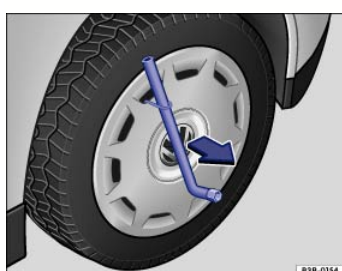

Fig. 230 Pulling the wheel cover off.
- Slide the lug wrench through the clip ⇒ Fig. 230 and pull the wheel cover off in the direction of the arrow.